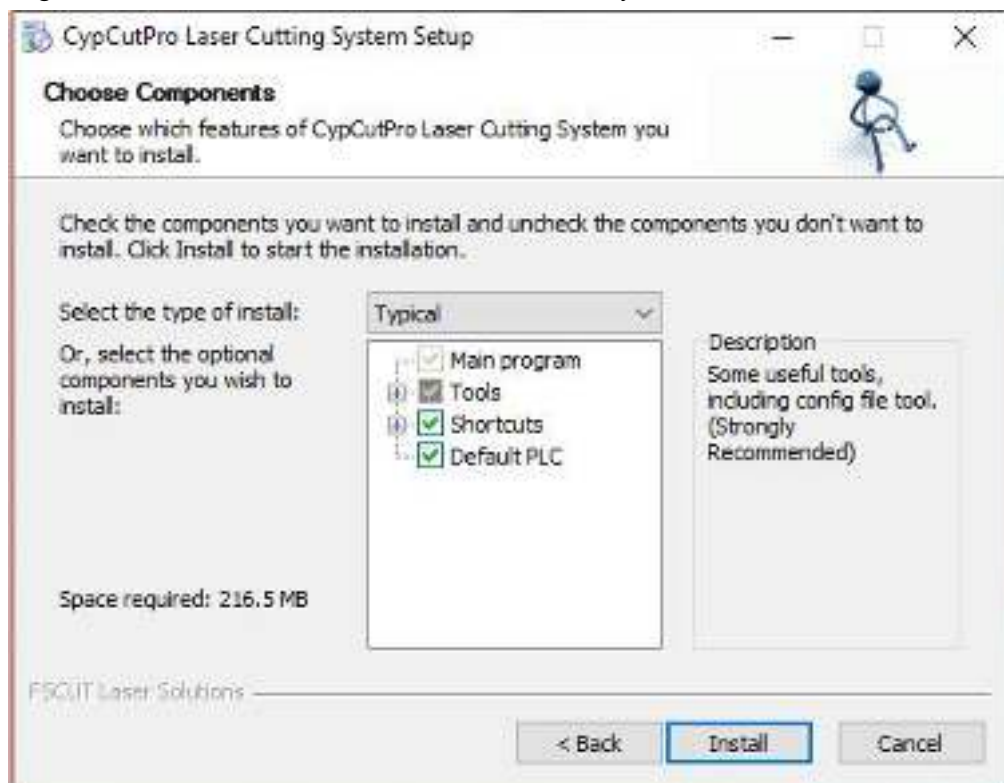

Figure 7 Check Driver Program
1. Use CypCutE to install the driver, check the driver when installing CypCutE, as shown in Figure 7. The BMC228A driver will be automatically installed.